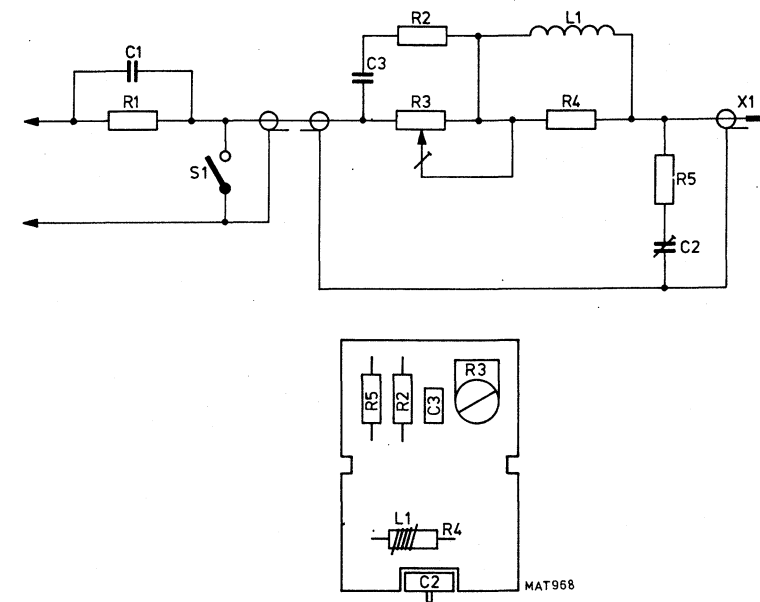

Fig. 1.12. Electrical parts and p.c.b. lay-out of the probe
For the location of adjustment point R3 on the p.c.b. in the compensation box, refer to fig. 1.12.
1.4.5.2. Electrical parts (see Fig. 1.12).